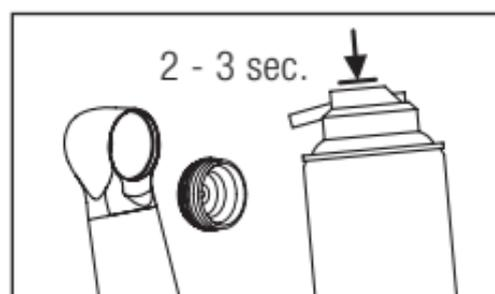

Fig. 32
- 5 Spray PANA SPRAY Plus into the head for 2 to 3 seconds. Also spray it briefly into the head cap (Fig. 32).